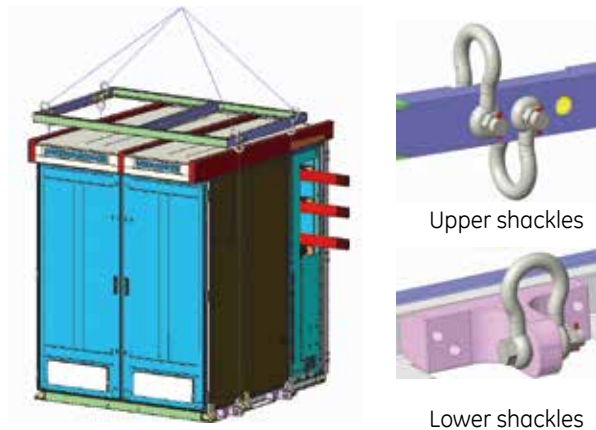

Figure 4.1: Handling by crane
- Maintain an angle of at least 60° from the front for the ropes leading to the crane hook (Figure 4.1)